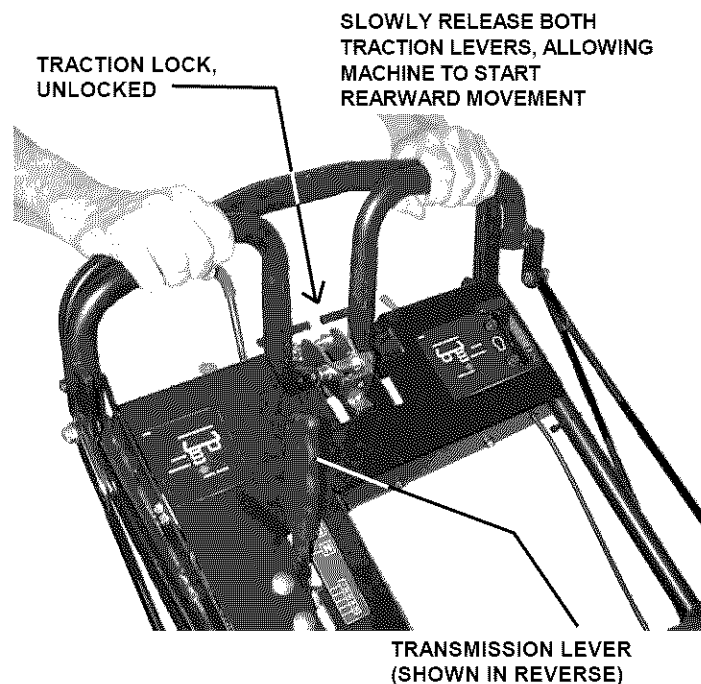

FIGURE 3.7
3. Move Transmission Shift Lever to **REVERSE (R)** position.
5. To **START MACHINE MOVEMENT**, simultaneously squeeze both Traction Levers firmly against the handle allowing the Traction Lock to move to the “Unlocked” position. See Figure 3.7.